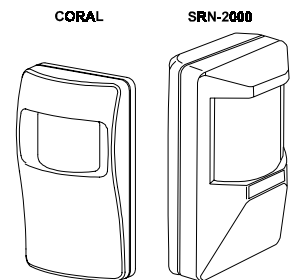

Figure 2-4. Samples of Passive IR Motion Detectors
- **Activity detectors** (see Figure 2-4): Optional motion detectors may be installed in the bathroom and in the kitchen. They are triggered by your movement across their field of view. Upon detection of movement, they reset the AUTOCOM-200 and prevent the automatic transmission of an **inactivity alert**.